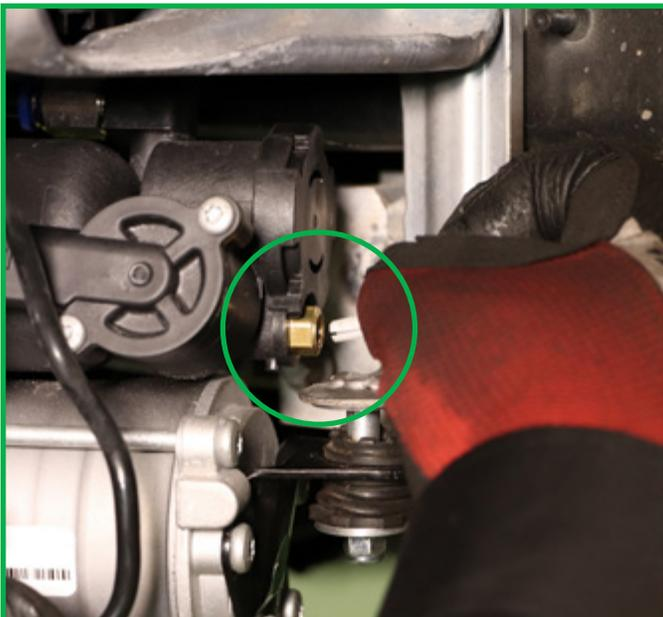

FIGURE 22
7. Remove the shipping pin from the compressor and insert the air line. Press the line in until it is firmly seated. (Figures 22, 23, 24)